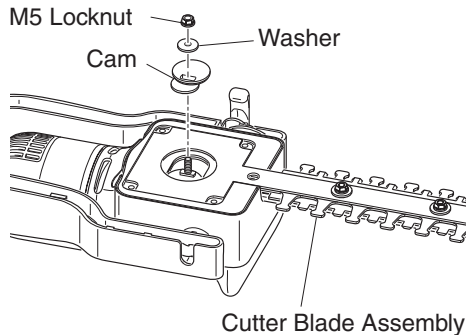

Figure 19 - Removing Cam
3. Remove M5 locknut and washer from cam (see Figure 19).
4. Align cam and cutter blade assembly. Remove cam. (see Figure 19).
8. Align cutter blade assembly so that the cam will fit properly into the oval-shaped lobes of the cutter blade assembly (see Figure 19). **IMPORTANT:** The large diameter flange of the cam must face upward away from the power head. The small diameter flange of the cam must line up with and sit directly on top of the cam flange.